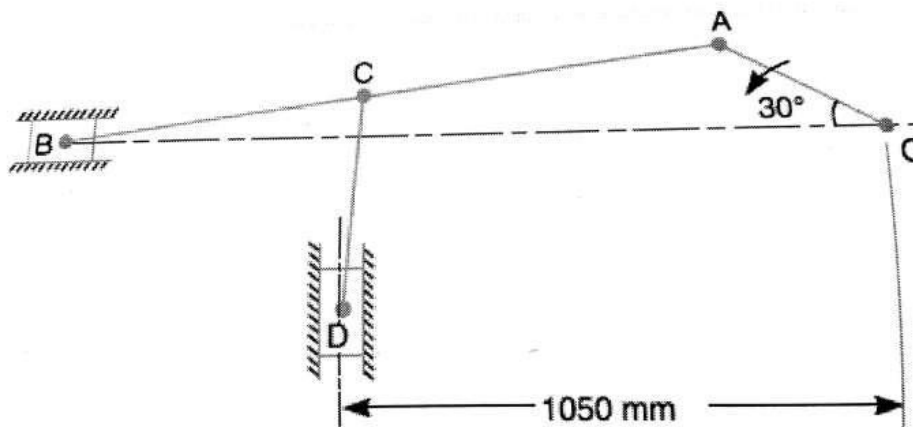

Fig.3
Q.4 In the mechanism, as shown in Fig.3, the crank OA rotates at 20 r.p.m. Anticlockwise and gives motion to the sliding block B and D . The dimensions of the various links are $OA = 300 \text{ mm}$; $AB = 1200 \text{ mm}$; $BC = 450 \text{ mm}$ and $CD = 450 \text{ mm}$. For the given configuration, Determine :